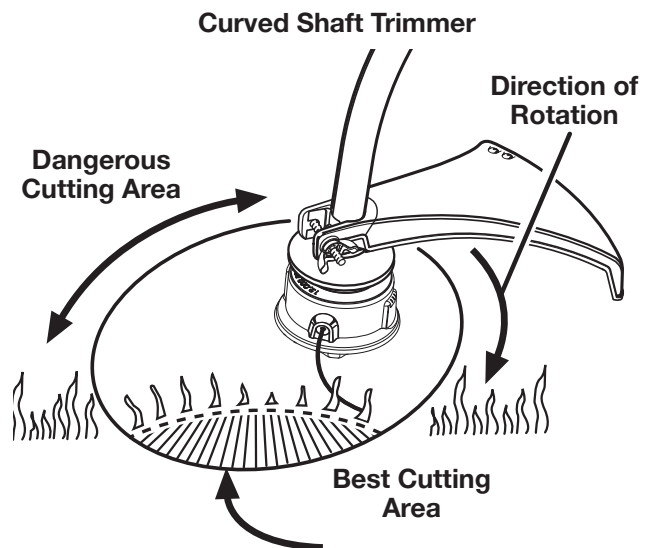

Figure 12
See Figures 12 and 13.
3. The curved shaft trimmer cuts when passing the unit from right to left. the straight shaft trimmer cuts when passing the unit from left to right. This will avoid throwing debris at the operator. Avoid cutting in the dangerous area shown in figures 12 and 13.